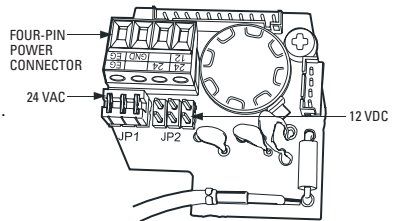

Figure 3. Voltage Jumper Settings
- b. Reset the voltage jumper on the camera power board. Refer to Figure 3. Remove the jumper from JP1 (AC) and reinstall the jumper on JP2 (DC).